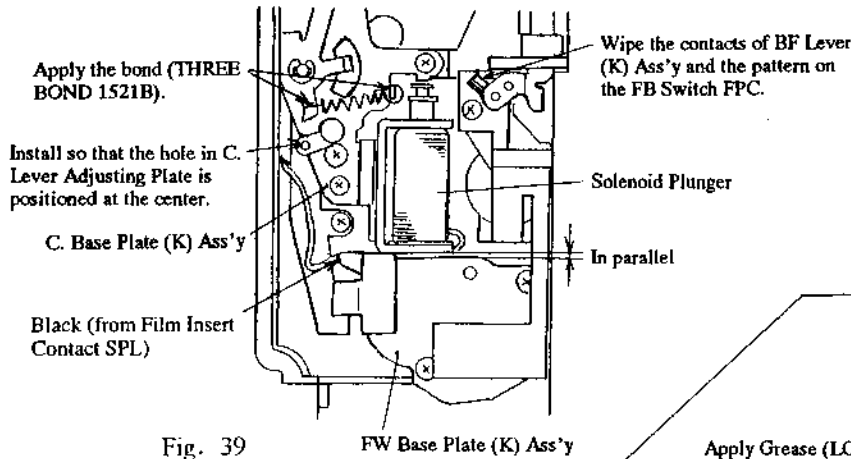
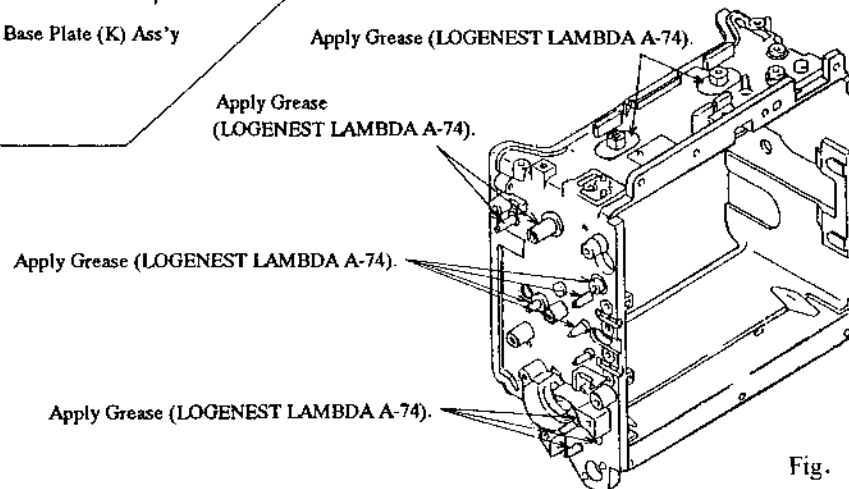

Fig. 39
Fig. 40
- 5) Remove the C. Base Plate Ass'y Setscrews (69114076) × 3 and take off the C. Base Plate (K) Ass'y (1AUD2600), C. Stopper Spring (1AU38700) and C. Stopper Ass'y (1AUD1300).
- 8) Peel off the FB Tape (1) (1AU39100).
- 10) Unsolder the Black lead wire (from Film Insert Contact SPL) on the Conduction Sub Plate (3CU16600). (See Fig. 39)
- 11) Peel off the Acetate Cloth Tape, remove the FW Base Plate (K) Ass'y Setscrews (69313076) × 3 and take off the Conduction Sub Plate (3CU16600), FW Base Plate (K) Ass'y (1AUD0100) and FW Gear (1) (1AU35100).
- 12) Remove the E Ring (E-1.2) (66101225) and take off the BF Lever (K) Ass'y (1AUD0400).
- Take care not to bend the contacts of the BF Lever (K) Ass'y (1AUD0400).
- 14) Remove the P. Base Plate Ass'y Setscrews (69313576), (69113576) and take off the P. Base Plate (K) Ass'y (1AUD0200) and BF Lever Spring (1AU37400).
- 15) Remove the P. Gear (4) (1AU36500), P. Gear (6) (1AU36700), P. Gear Spring (1AU36900) and P. Gear (5) (1AU36600).
- 16) Remove the P. Gear (3) Setscrew (66001227) and take off the P. Gear (3) (1AU36400).
- a) Apply Grease (LOGENEST LAMBDA A-74) to the specified positions. (See Fig. 40)
- b) Press the P. Gear (6) (1AU36700) gently and make certain that the P. Gear (6) returns to the original position by the force of the P. Gear Spring (1AU36900).
- c) After installing the C. Base Plate (K) Ass'y (1AUD2600), check to see if the Solenoid Plunger (1AU54100) and the FW Base Plate (K) Ass'y (1AUD0100) are in parallel with each other. (See Fig. 39)
- d) Once the C. Base Plate (K) Ass'y (1AUD2600) or C. Ratchet Ass'y (1AUD1100) has been replaced with a new one, make the adjustment of the C. Base Plate (K) Ass'y (Counter Gear). (See page B-35)
- e) Before installing the BF Lever (K) Ass'y (1AUD0400), wipe its contacts and the pattern on the FB PC-FPC. (See Fig. 39)
- Install the C. Lever Adjusting Plate (1AUD1600) on the C. Base Plate (K) Ass'y (1AUD2600) so that the hole in the C. Lever Adjusting Plate is positioned at the center of the cut portion of the C. Base Plate (K) Ass'y. (See Fig. 39)
- Install the Solenoid Plunger (1AU54100) in such a position that the Solenoid Plunger is in parallel with the C. Base Plate (K) Ass'y (1AUD2600).